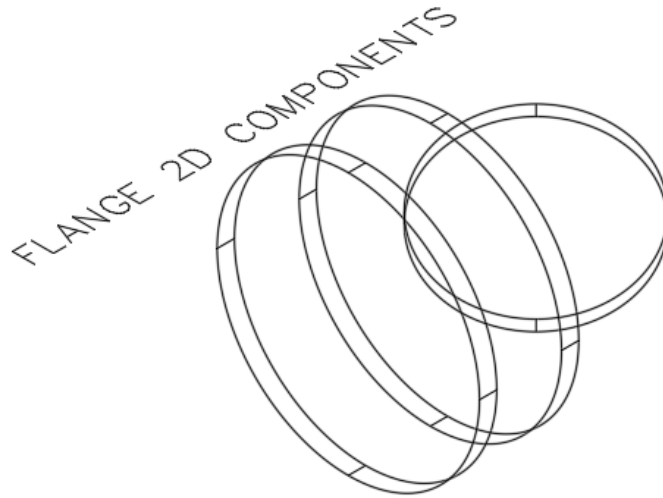

Figure 7.7 – Result of flange sweeps along centerlines
5. Continuing, let's apply the SWEEP command to each of the flanged pieces as we just did to our pipe 2D components area, with the result appearing similar to that displayed in *Figure 7.7*.